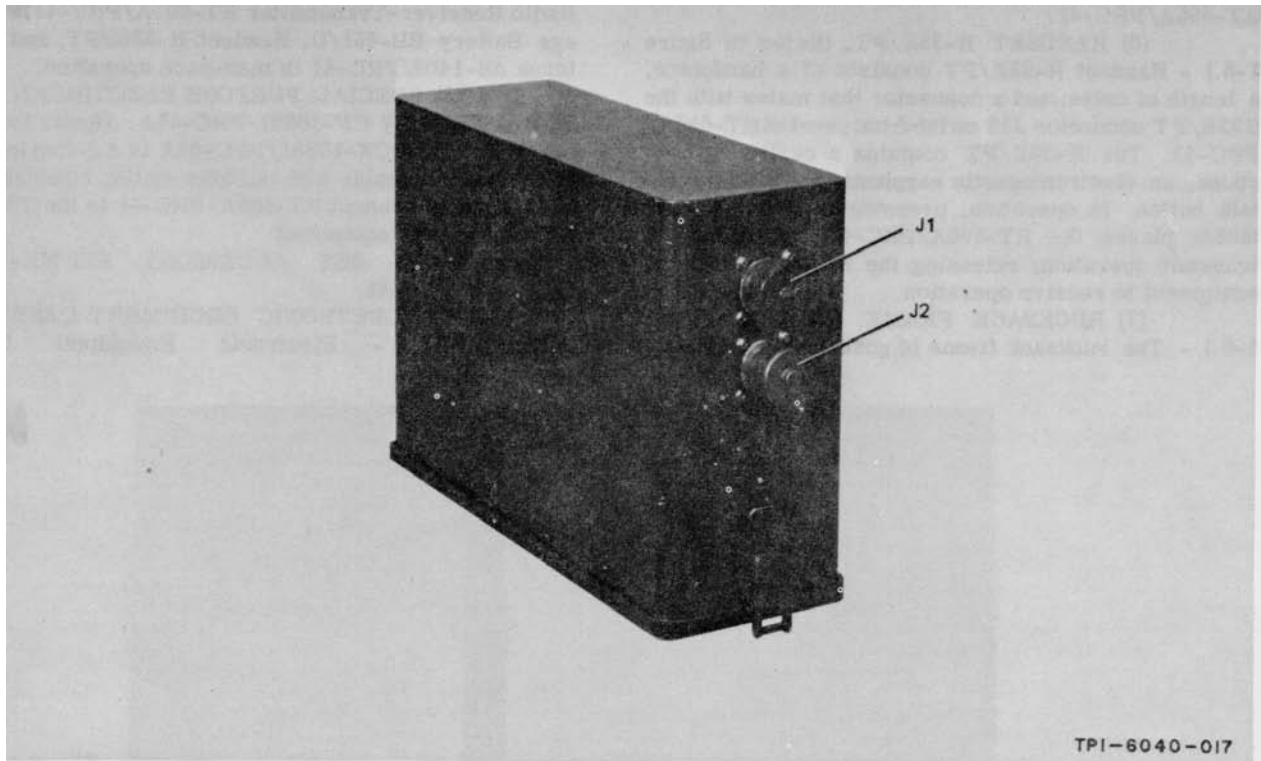

Figure 1-7. Power Supply PP-3700/PRC-41, OBLIQUE VIEW
(2) POWER SUPPLY PP-3700/PRC-41. (Refer to figure 1-7.) - The circuits of Power Supply PP-3700/PRC-41 are contained in an aluminum case having the same dimensional configuration as Storage Battery BB-451/U. Power Supply PP-3700/PRC-41 is used to provide the 26.5-volt dc primary power for Radio Receiver-Transmitter RT-695A/PRC-41 where either 115- or 230-volt, 50- to 400-Hz power is available. Refer to paragraph 2-5b(1) of the Installation and Operation Technical Manual for Radio Set AN/PRC-41A, NavShips 0967-872-5010. This component may be clamped directly to the rear of the RT-695A/PRC -41, or its primary power may be made available by use of Power Electric Cable Assembly CX-8686/PRC-41 connected between dc connector J2 on the side of the PP-3700/PRC-41 and the rear of Mounting MT-2976/PRC-41. When operating the RT-695A/PRC-41 on the test bench with Receiver-Transmitter Case CY-3884/PRC-41 removed, primary power may be applied to the RT-695A/PRC-41 through the dc maintenance adapter. Power Supply PP-3700/ PRC-41 may also be mounted on Mounting MT-2977/ PRC -41.